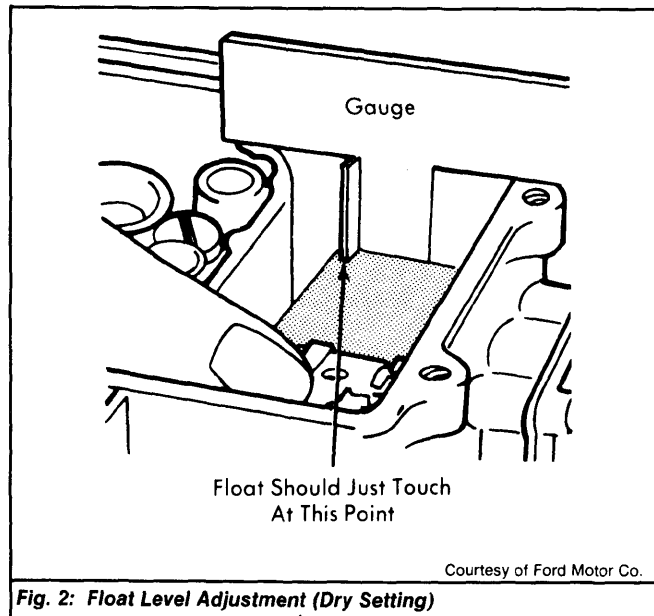

Fig. 2: Float Level Adjustment (Dry Setting)
- 1) With air horn removed, depress float tab to seat fuel inlet needle. Measure distance from top of main body (gasket removed) to float, at point 1/8" from free end of toe. See Fig. 2.